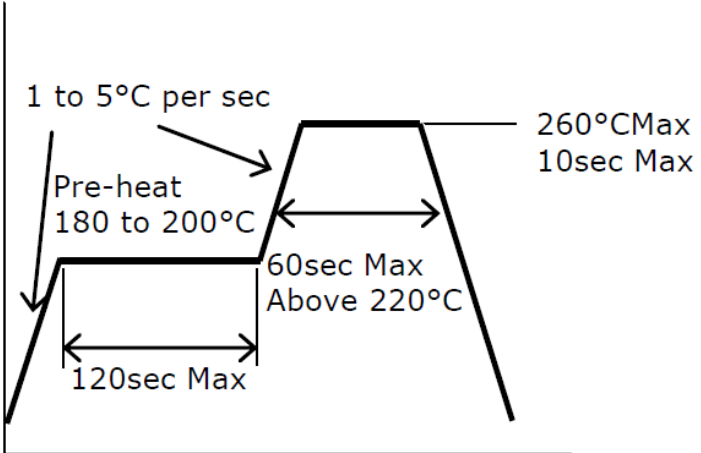

Figure 8. Recommended Reflow Soldering Condition (Lead-free Solder)
2. Using the recommended reflow soldering conditions (See Figure 8 to the left) as a reference, modify if necessary, the recommended reflow conditions specified by the manufacturer of the solder paste being used.